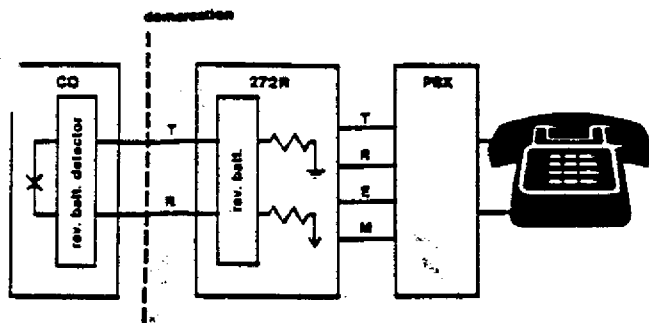

figure 2. 272R in local CO DID application
1.04 The 272R, when equipped with the 6113 modules, performs the loop-to-E&M conversion necessary for direct inward dialing. Figure 2 shows the 272R in a typical DID application. The DID interface provides ground and battery on the tip and ring leads, respectively, to the CO. Upon distant-end seizure, the CO closes tip and ring, which provides M-lead battery to the PBX. The CO then transmits dialing information. The M lead pulses in response to dial pulses unless DTMF dialing is used, in which case multifrequency tones pass directly to the PBX. The PBX decodes the dialing information and rings the station. When the called party answers, the PBX grounds the 272R's E lead, providing reverse battery back to the CO. When the PBX station goes on hook, the ground to the E lead is removed and the tip and ring polarity returns to normal, causing the CO to open the tip and ring leads. If disconnect originates from the CO, the tip and ring leads are opened at the CO, thus removing the M-lead battery to the PBX. In either case, the circuit is returned to idle and is ready for the next DID call.
1.07 The connectorized backplate (see figure 2) of the 272R Assembly is equipped with four 25-pair connectors: P1 and P2, which interface the loop-signaling side, and P3 and P4, which interface the E&M-signaling side. A twelve-position barrier-type terminal block on the backplate is used for input power and ring generator connections. Each circuit can be powered individually, and each power connection should be fused.